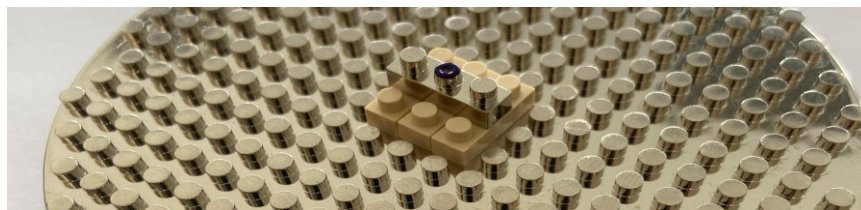

Figure 18 Connection of the Feed Cell for Thick Monopole Antenna
14. Connect the 1X3 feed metal cell to the top of the dielectric cell as shown in Figure 18.